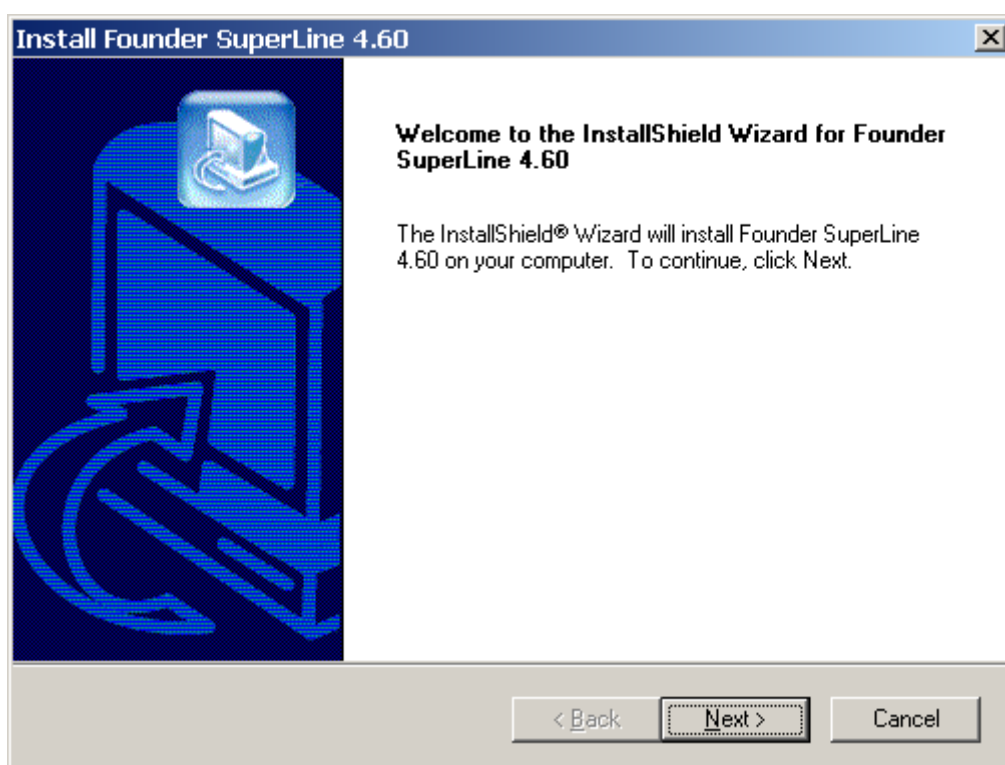

Figure 2-1
1. Insert the installation CD into your CD-ROM drive. If the AutoRun.exe on the CD runs automatically, it will display a window as shown in Figure 2-1. If it doesn't run, please double-click the setup.exe under the Installation folder to begin the installation.